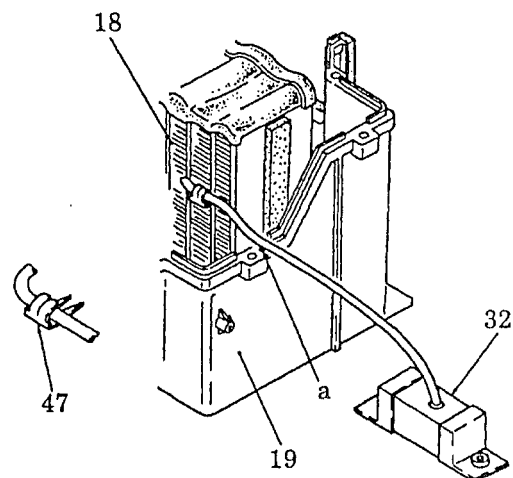

Fig. 14 Replacing gas type thermo (32)
4.3 Replacing Gas type Thermo (32) (See Fig. 14.)